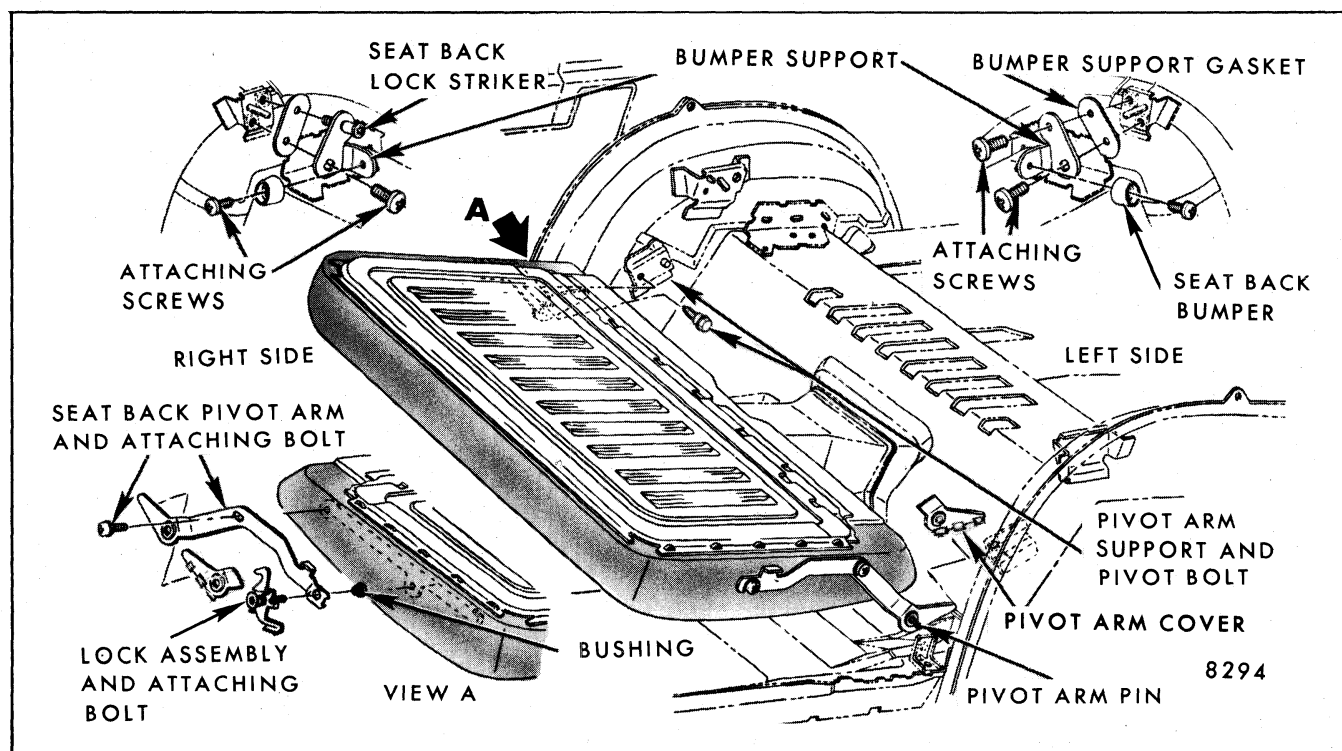

Fig. 9-77-Folding Rear Seat Back Assembly - "H-07, 15 and 77" Styles
1. Using lock striker removal tool J-23457 or BT-7107 or equivalent, remove striker (Fig. 9-77).
2. To remove seat back bumpers, bumper gasket or bumper support, remove bumper screws or support screws shown in Figure 9-77.